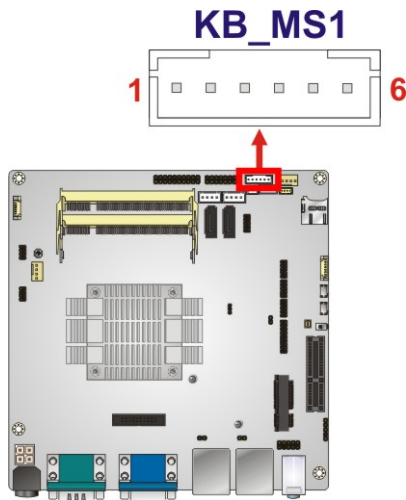

Figure 3-11: Keyboard and Mouse Connector Location
- CN Location:** See Figure 3-11